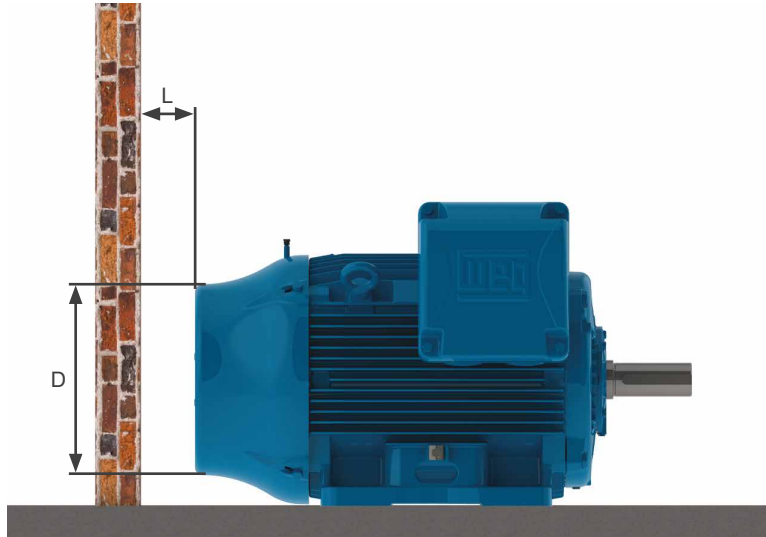

Figure 7.1: Minimum clearance to the wall
- Ensure that the air inlet and outlet opening are not blocked. The minimum clearance to the nearest wall (L) should be at least $\frac{1}{4}$ of the fan cover diameter (D), see Figure 7.1 on page 61. The intake air temperature must be at ambient temperature.